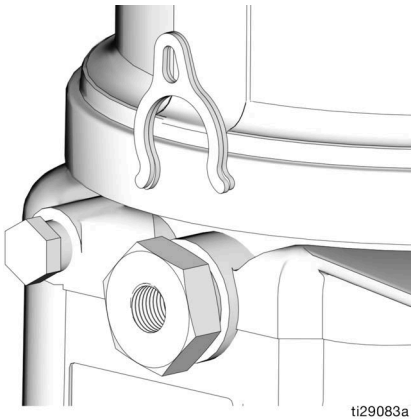

FIG. 18
2. Use a wrench to turn the pump element counter-clockwise to loosen. Do not remove the entire pump element. Only back the pump element out enough to allow a spacer to be slid on or off. (FIG. 18).
The pump volume control is set using no spacers, one (1) or two (2) spacers (FIG. 18).